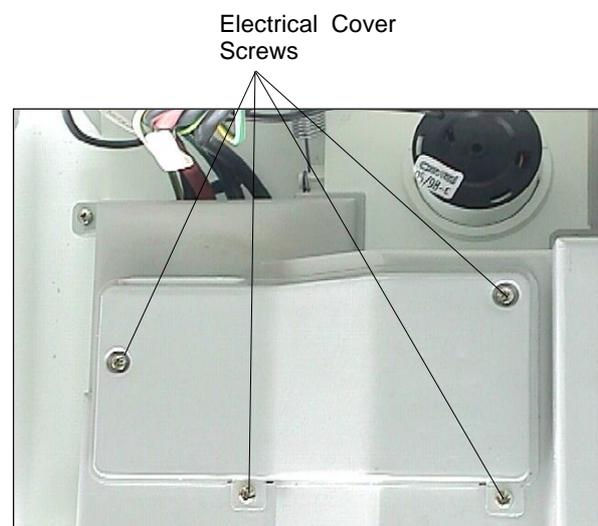

Fig. 18
Remove electrical cover by releasing four securing screws. Fig.18.
- 5.7.7 External controls may be wired from terminals TA to TA after removing the factory fitted link (see fig. 18 & pages 49 - 52 for further details). If a neutral is needed use the terminal marked N on the terminal strip.